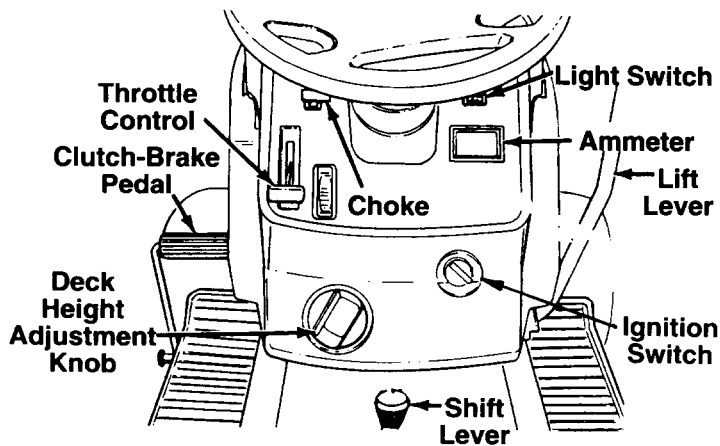

FIGURE 9
The throttle control is used to regulate the engine speed. To get maximum efficiency from cutting, the throttle should be in the FAST position when operating the mower. See figure 9.
The choke control is located on the dashboard and is operated manually. Details for the choke operation are covered in the separate engine manual packed with your unit. See figure 9.
Turn the key to the START position to start the engine. When the engine is running, leave the key in the ON position. To stop the engine, turn the key to the OFF position and remove it to prevent accidental starting. See figure 9.
The head lamps are operated by pushing the light switch located on the dashboard. The head lamps will only operate when the engine is running. See figure 9.
The ammeter registers the rate of battery charge or discharge. The ammeter will register on the discharging side with starting the engine. It should register on the opposite side (charging) when the engine is running in the fast position until the battery is completely charged. With a fully charged battery or with the engine idling, the ammeter will not show a charge. See figure 9.
The clutch-brake pedal is located on the left side of the tractor. Depressing the clutch-brake pedal part way disengages the clutch. Pressing the pedal all the way down disengages the clutch and engages the disc brake. See figure 9.
**NOTE:** On models without electric clutch the lift lever must be in the disengaged position when starting the engine, when shifting into reverse and if the operator leaves the seat. See figure 9.
3. Models without electric clutch: Place the lift lever in the DISENGAGED position. See figure 9.
4. Set the throttle control in the FAST POSITION. See figure 9.
6. Turn the ignition key to the START position. When the engine is running, let the key return to the ON position. See figure 9.